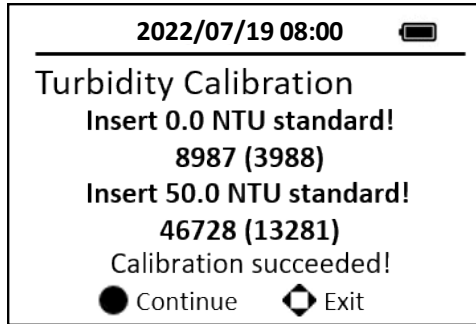

Figure 7 Turbidity calibration for low range
8. Press the **Continue** key to continue high range turbidity calibration. If high range turbidity calibration not required, press any keys to exit. (Figure 7)